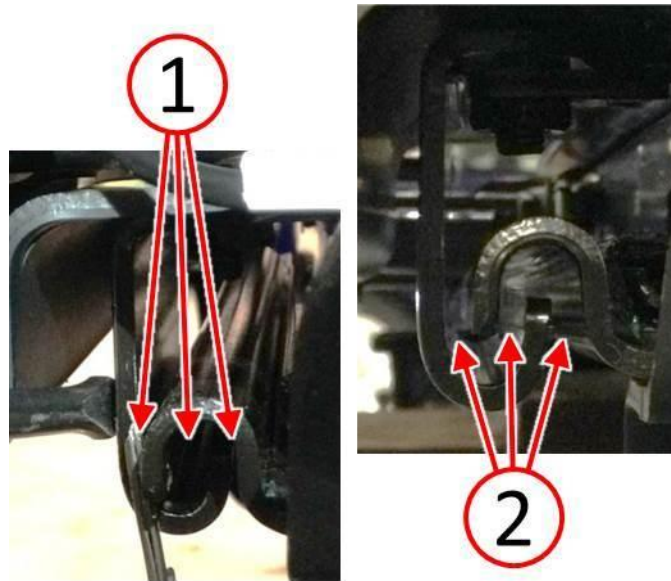

Fig. 9 Position 60 Percent Rail To Achieve Even Spacing
21. Adjust the seat track alignment (1) to ensure a minimum of 1.5 mm (0.06 in.) gap between the J-rails (2) at the rear of the seat track (Fig. 9).